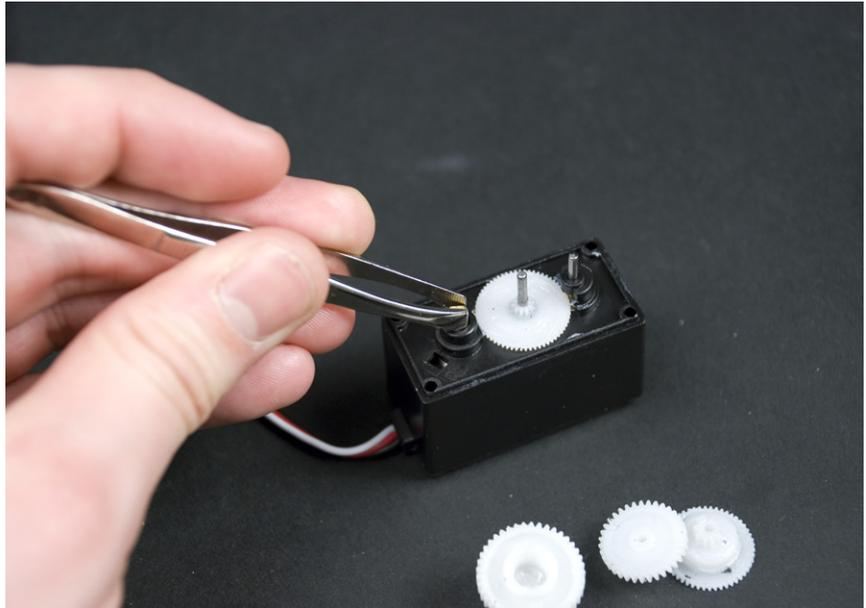

Figure 8-15. Adjusting the potentiometer to the center
8. Using small needlenose pliers, rotate the shaft of the potentiometer right and left to determine its range of movement. Turn it to its center position, as shown in Figure 8-15. This way, the servo thinks that it is always centered, and it will be able to rotate continuously. To make sure it's calibrated,